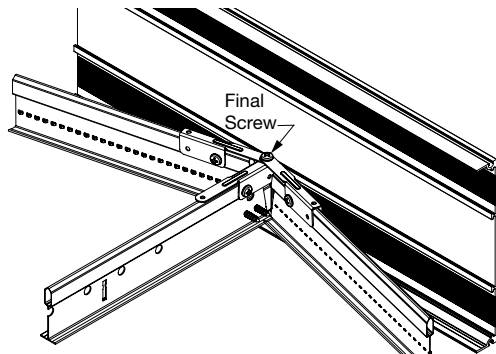

Fig 50
- Once all PACs have been screw-attached to XM Cross Tees, connect them to the first installed PAC by inserting a screw through the aligning holes on the top (**Fig 50**)